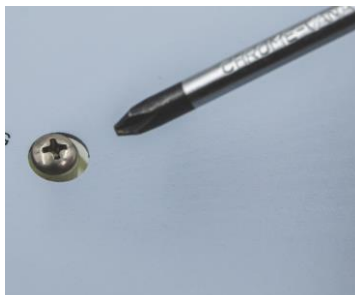

Figure 12: Air vent screw
6. Using a Philips head screw driver, open the vent screw, located below the coolant ports. Screw it out 3 turns counter-clockwise. (see figure 12)